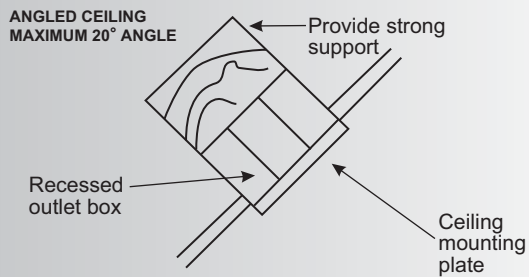
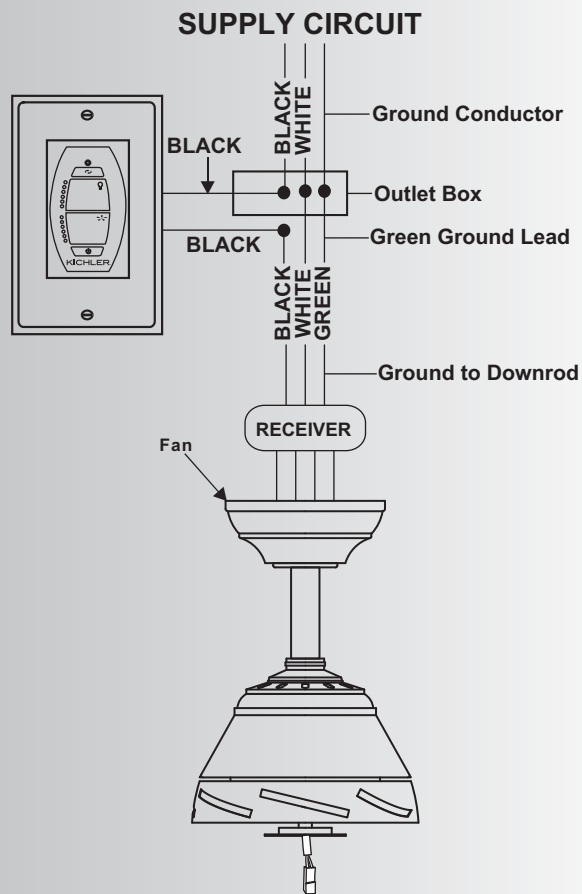

Fig. 3
Fig. 12
Make each of the wire connections illustrated in Figure 3. Secure each with the wire nuts provided. (Fig. 12)
Step 1. Black wire going to the fan (motor) to the Black wire from the Switch. (Fig. 12)
Step 2. In the Ceiling Outlet Box, connect the White (neutral) wire coming from the Fan to the White (neutral) wire from the Household Supply. (Fig. 12)
Step 3. Connect the Black (AC IN L) from the switch to the Black wire going to the Household Supply. (Fig. 12)
Step 4. If your ceiling outlet box has a ground wire (green or bare copper) connect it to the ground wire from the ceiling fan and/or the ceiling mounting bracket. (Fig. 12)